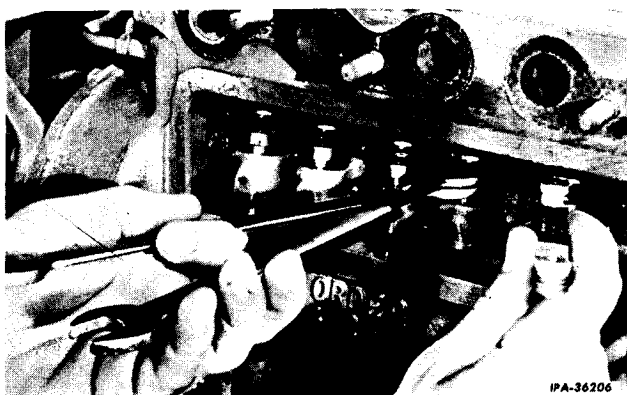

Fig. 31 - Adjusting Valve Tappets.
3. Adjust the intake and exhaust valve tappet clearances to that shown in "SPECIFICATIONS," Section 1. (Also refer to Fig. 31.)